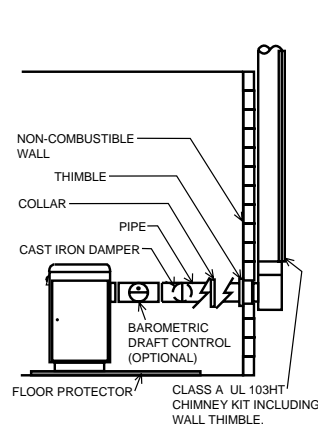

Fig. 5
1. The chimney connection should be as possible. The heater must have its own chimney. Do not connect this unit to a chimney flue, serving another appliance. If there is no chimney near where you wish to place the heater, you can use a UL 103HT Residential Type and Building Heating Appliance Chimney (Fig. 5 & 6).